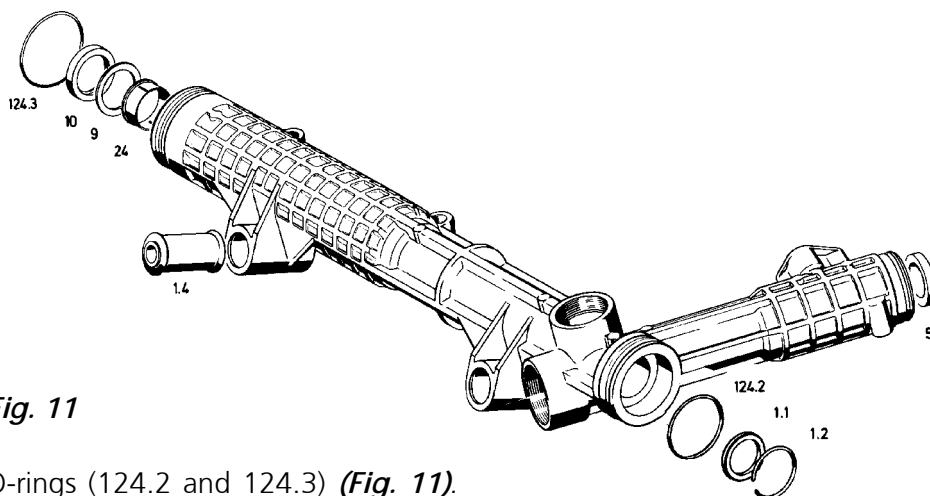

Fig. 11
Remove O-rings (124.2 and 124.3) (**Fig. 11**).
Using a suitable mandrel, press the bearing bush (24), the washer (9) and the seal (10) out towards the cylinder chamber (**Fig. 11**).